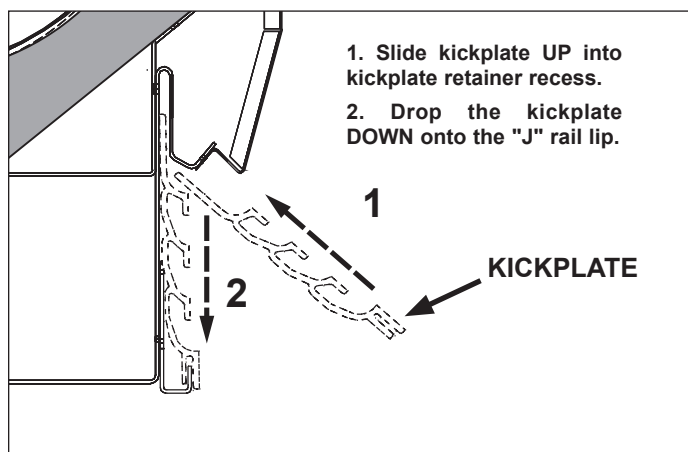

Fig. 5 Kickplate installation
9. Install lower front panel or upper kickplate retainer (if included). Insert top of kickplate into the kickplate retainer. Slide the kickplate up into the retainer, then down onto the "J" rail (Fig. 5). The bottom of the kickplate fits over the extruding "lip" of the "J" rail.